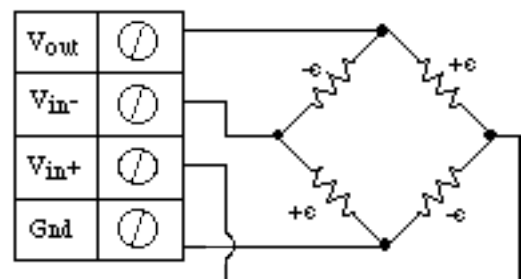

Fig 3.10 - Strain Measurement - Full Bridge Circuit (Bending)
Measuring bending strain using a full bridge configuration involves wiring four strain gages as shown in figure 3.10, applying a voltage across the bridge, and measuring the voltage across the two intermediate bridge nodes via a pair of instruNet Vin+ and Vin- input terminals. The excitation voltage for the bridge is supplied by either the instruNet Vout terminal or by an external voltage source. instruNet calculates the value of the strain, returning "strain" engineering units,
3. Wire your voltage source per figure 3.10, and refer to the steps at the beginning of this chapter for more information on how to set up your sensor.^{5,10}